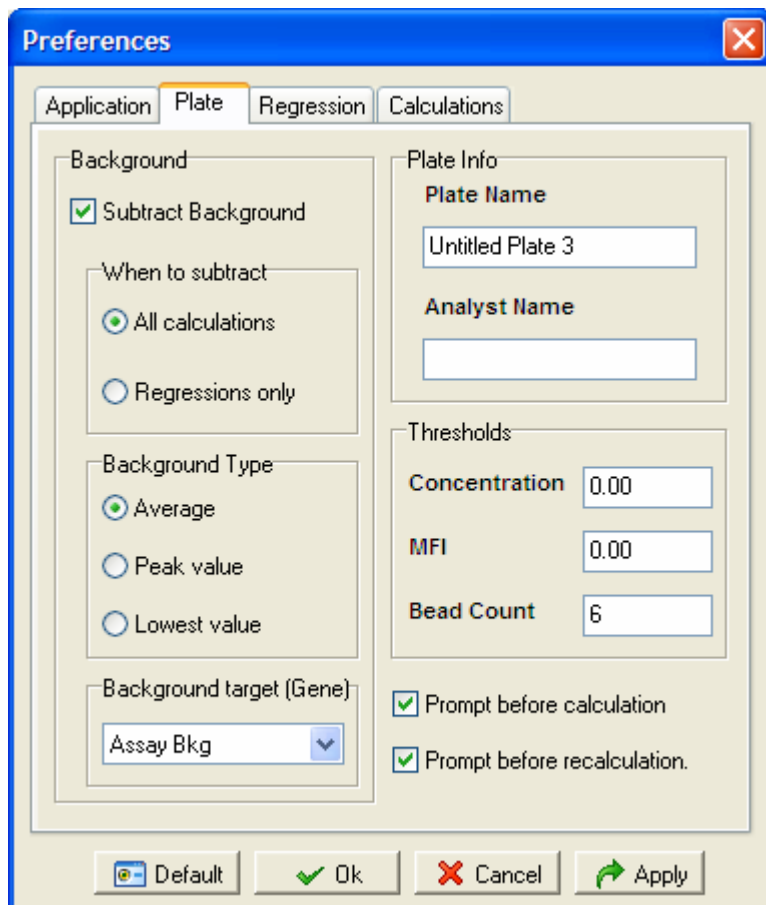

Figure A.2 Preferences dialog box
1. Enter the MFI, count, or concentration threshold in the Preferences dialog box (Figure A.2).